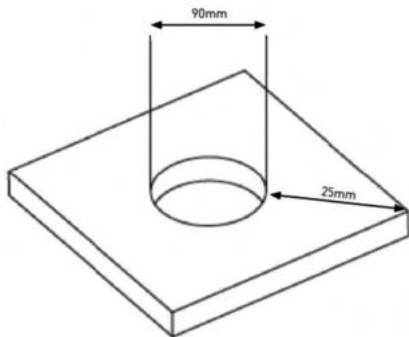

Fig. 1
- Cut a 90mm hole in the surface allowing a 25mm clearance around the hole (see Fig. 1)